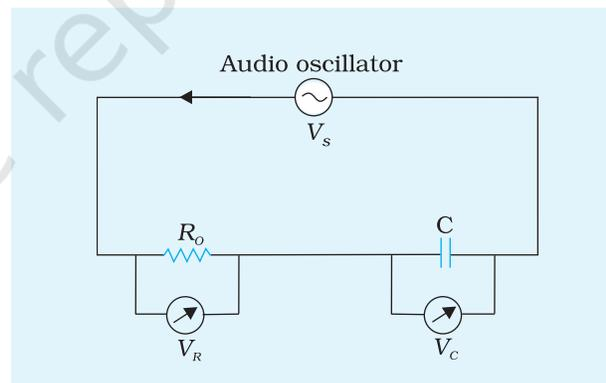

Fig. P 7.1 Measurement of the reactance of a capacitor
Current passing through a capacitor depends on its capacitance and the frequency of the applied sinusoidal alternating voltage. Keeping frequency fixed, variation of current (I) with voltage (V) is observed and the capacitive reactance X_c is found out from the slope of the V - I graphs. In order to measure the current, a carbon resistor R_o of the order of 1000 Ω is inserted in the circuit (Fig. P 7.1) and the voltage V across it is measured with the DMM, in ac voltage mode. So the current in the circuit is $I = V_R/R_o$. Setting the oscillator at different frequencies, X_c is found for different frequencies. A graph between X_c and frequency ν is called the frequency response of the capacitor. A graph between X_c^{-1} and frequency ν is also obtained which is a straight line passing through the origin.
1. Connect the audio oscillator, carbon resistor R_o and capacitor according to the Fig. P 7.1.
1. The connections are made according to Fig. P 7.1 by replacing capacitor C with the inductor L and changing the resistance of the resistor R_o to 100 Ω .
If the source voltage, \mathbf{V}_s , in the circuit in Fig. P 7.1 is also measured along with the voltage \mathbf{V}_c across the capacitor and the voltage \mathbf{V}_R across the resistor R_0 and tabulated in Table P 7.1, then it can be found that